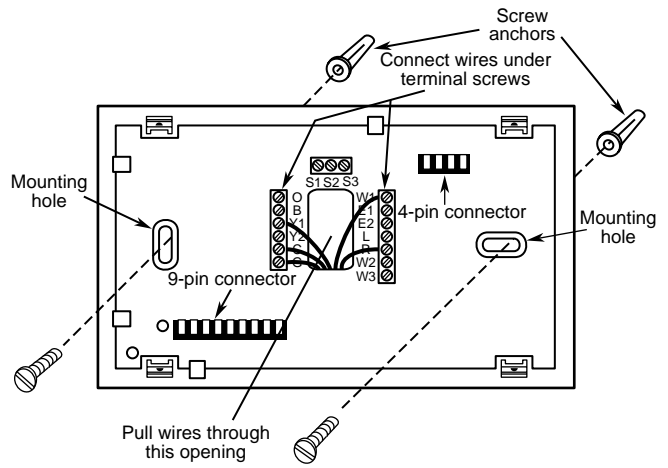

Figure 3. Subbase
2. Connect wires beneath terminal screws on subbase using appropriate wiring schematic (see figs. 3 through 6).
5. Fasten subbase loosely to wall, as shown in fig. 3, using two mounting screws. Place a level against bottom of subbase, adjust until level, and then tighten screws. (Leveling is for appearance only and will not affect thermostat operation.) If you are using existing mounting holes, or if holes drilled are too large and do not allow you to tighten subbase snugly, use plastic screw anchors to secure subbase.